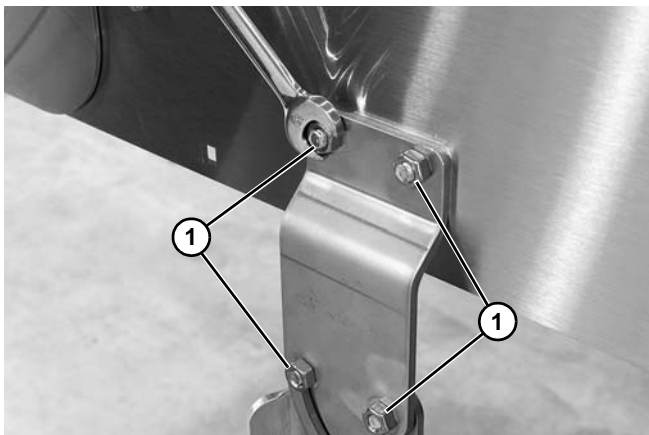

Figure 38
4. Remove fasteners (**Figure 38, item 1**) securing the stand brackets from one side of the conveyor and remove brackets.